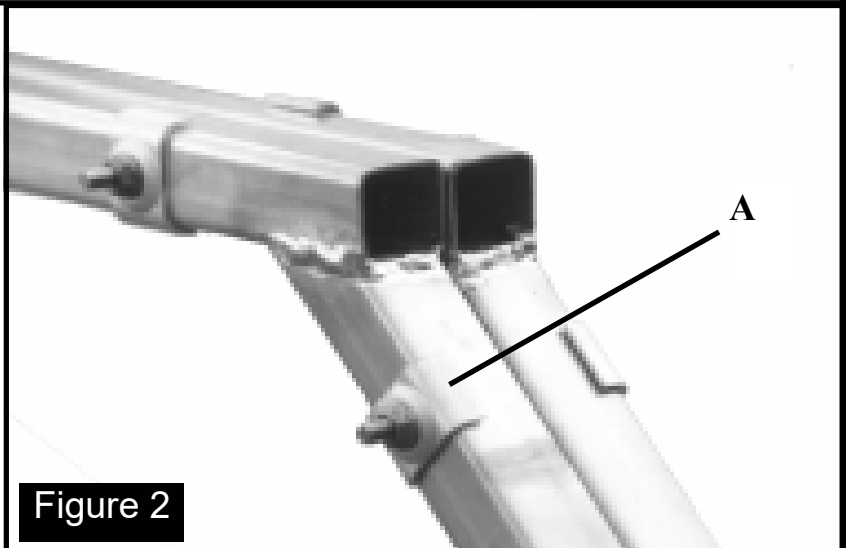

Figure 2
There are two dishes and two halves to each dish in the assembly of this unit. The hardware quantities in package #1, reflect the assembly of both dish assemblies as separate units. The dish sections are marked "TOP" and "BOTTOM". Use the hardware above to assemble the antenna halves as shown in Figures 2 and 3. At this point you must decide which dish will be on which side when they are mounted together as a pair. Do not install hardware in location "A" when location "A" is nearest to the mating dish assembly. There will be a pair of angle cross-members bolting to this location later on.
Next, loosely bolt on the angle brackets as shown in figure 8 to "location A" shown in figure 2 on both screen halves. Use two (2) 1/4-20 x 3-1/2" bolts, two (2) 1/4-20 nuts and two (2) 1/4 split lockwashers. One of the two angle brackets has an F style combiner affixed to it. Ensure that this angle bracket is located such that the combiner faces down. This will help avoid moisture build up on the face of the combiner.